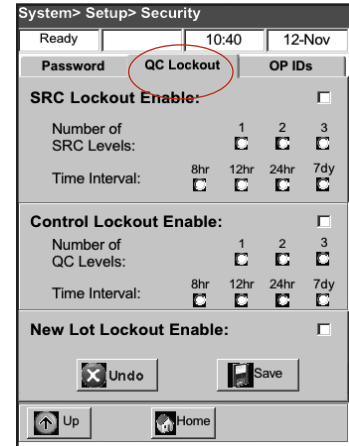

Figure H-21: System > Setup > Security screen
4. Tap the **QC Lockout** tab (Figure H-21).